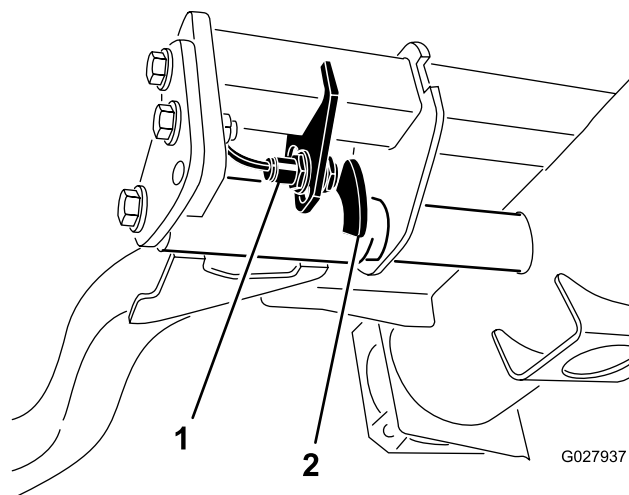

Figure 34
2. The lift arm switch is located underneath the hydraulic tank behind the front right lift arm (Figure 34).
3. Loosen the switch mounting screws (Figure 34) and move the switch down to increase the lift arm turn around height or move the switch up to decrease the lift arm turn around height. Tighten the mounting screws.